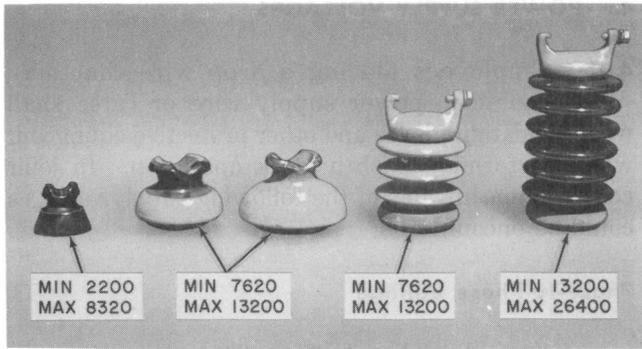

Fig. 8—Typical Power Supply Insulators
4.05 Employees can estimate the voltage of power by observing the size and type of insulator, voltage markings on transformer, position of supply conductors on a pole, etc. (See Fig. 8, 9, and 10.)